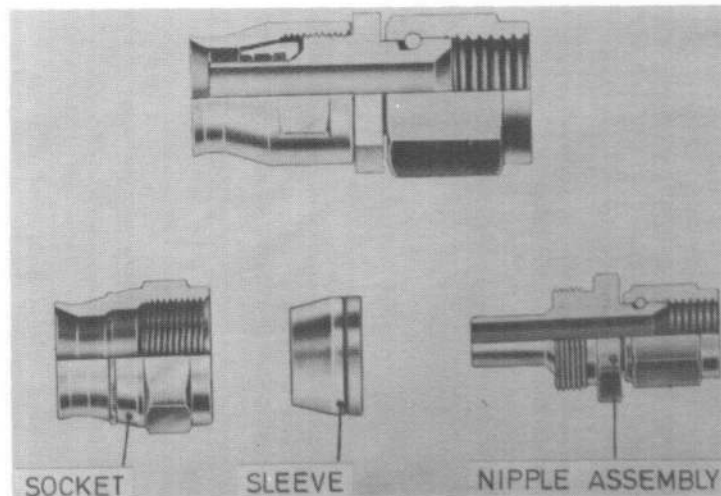

Fig. 8 Typical 'Super Gem' fitting
'Super Gem' fittings for Teflon hose (fig. 8)
14. These fittings are available in the flared and flareless types for use in both medium and high pressure applications. The 'Super Gem' fitting is basically the same as the 'Little Gem' fitting and works on the same principle. The cutting spur of the 'Little Gem' nipple is replaced in the 'Super Gem' by a separate sleeve (see fig. 8).